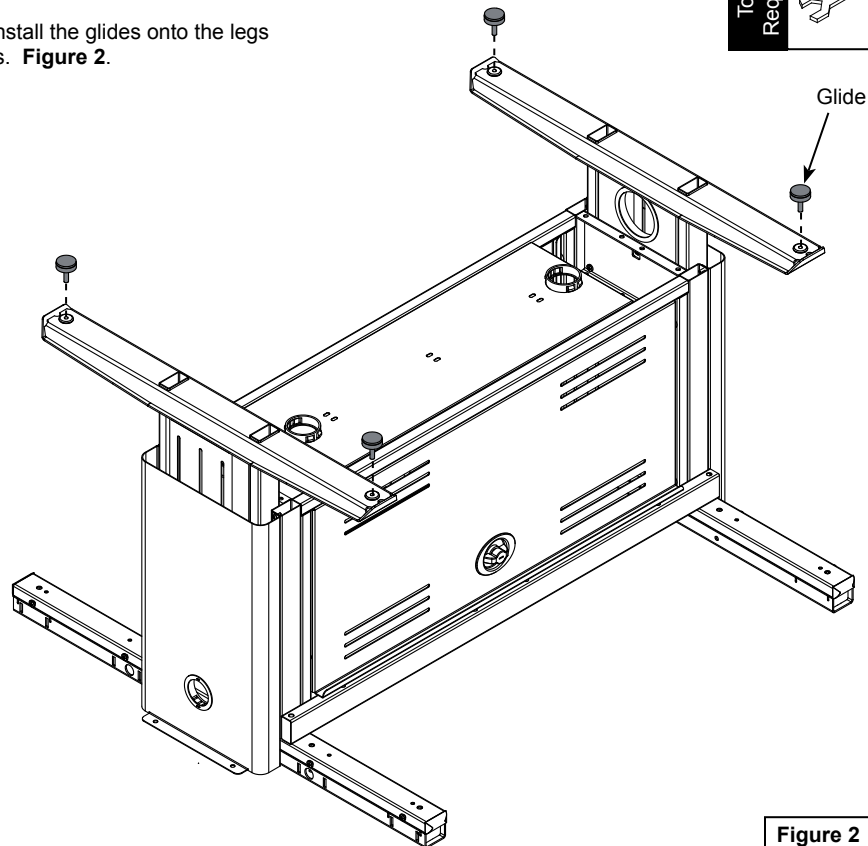

Figure 2
1. With the table core still upside-down, install the glides onto the legs (4) on Set and go legs, (6) on eLift legs. **Figure 2.**